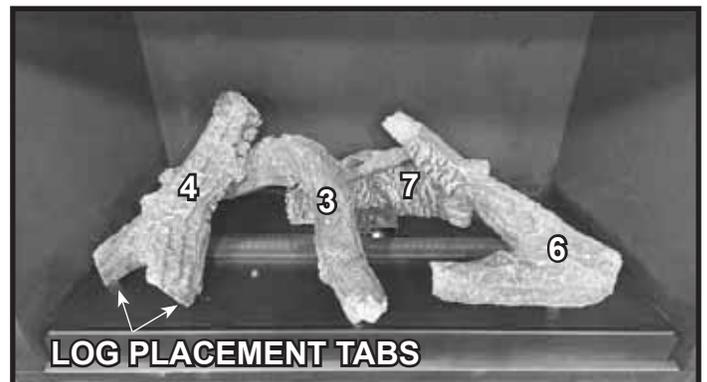

Figure 20. Place Log #4
20. Install Log #4 by placing the forked end down onto the base pan so that each fork is contacting the placement tabs as shown in Figure 20. Lean Log #4 back so it rests on Log #3. See Figure 20.